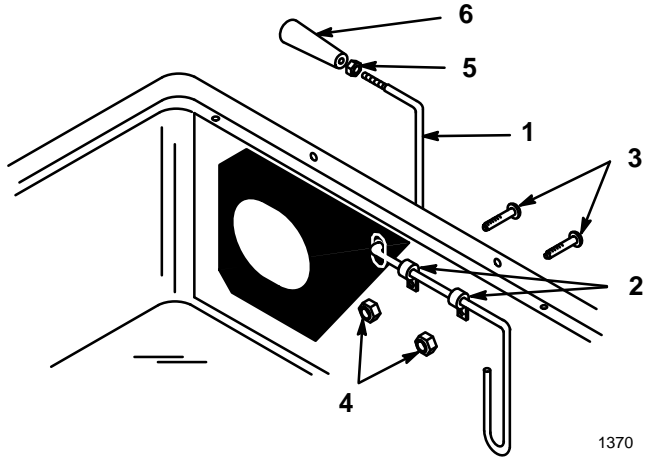

Figure 11
1. Slide the threaded end of the indicator rod through (2) clips, then rubber seal and slot in cover (Fig. 11).
2. Secure the clips to the cover with (2) 1/4 x 5/8" (16 mm) pan head screws and (2) 1/4" lock nuts (Fig. 11).
3. Thread the jam nut and handle completely onto the threaded end of indicator rod. Rotate the handle so that the decal can be read from the operators position, then tighten the jam nut (Fig. 11).